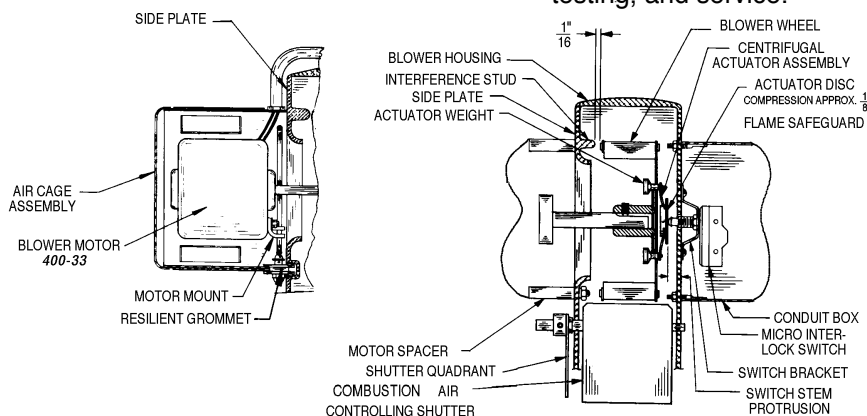

FIGURE 6 Motor, Blower, and Interlock Assembly
- When shaft location of blower wheel is disturbed, re-assemble with a 1/16" clearance as shown in Figure 6.